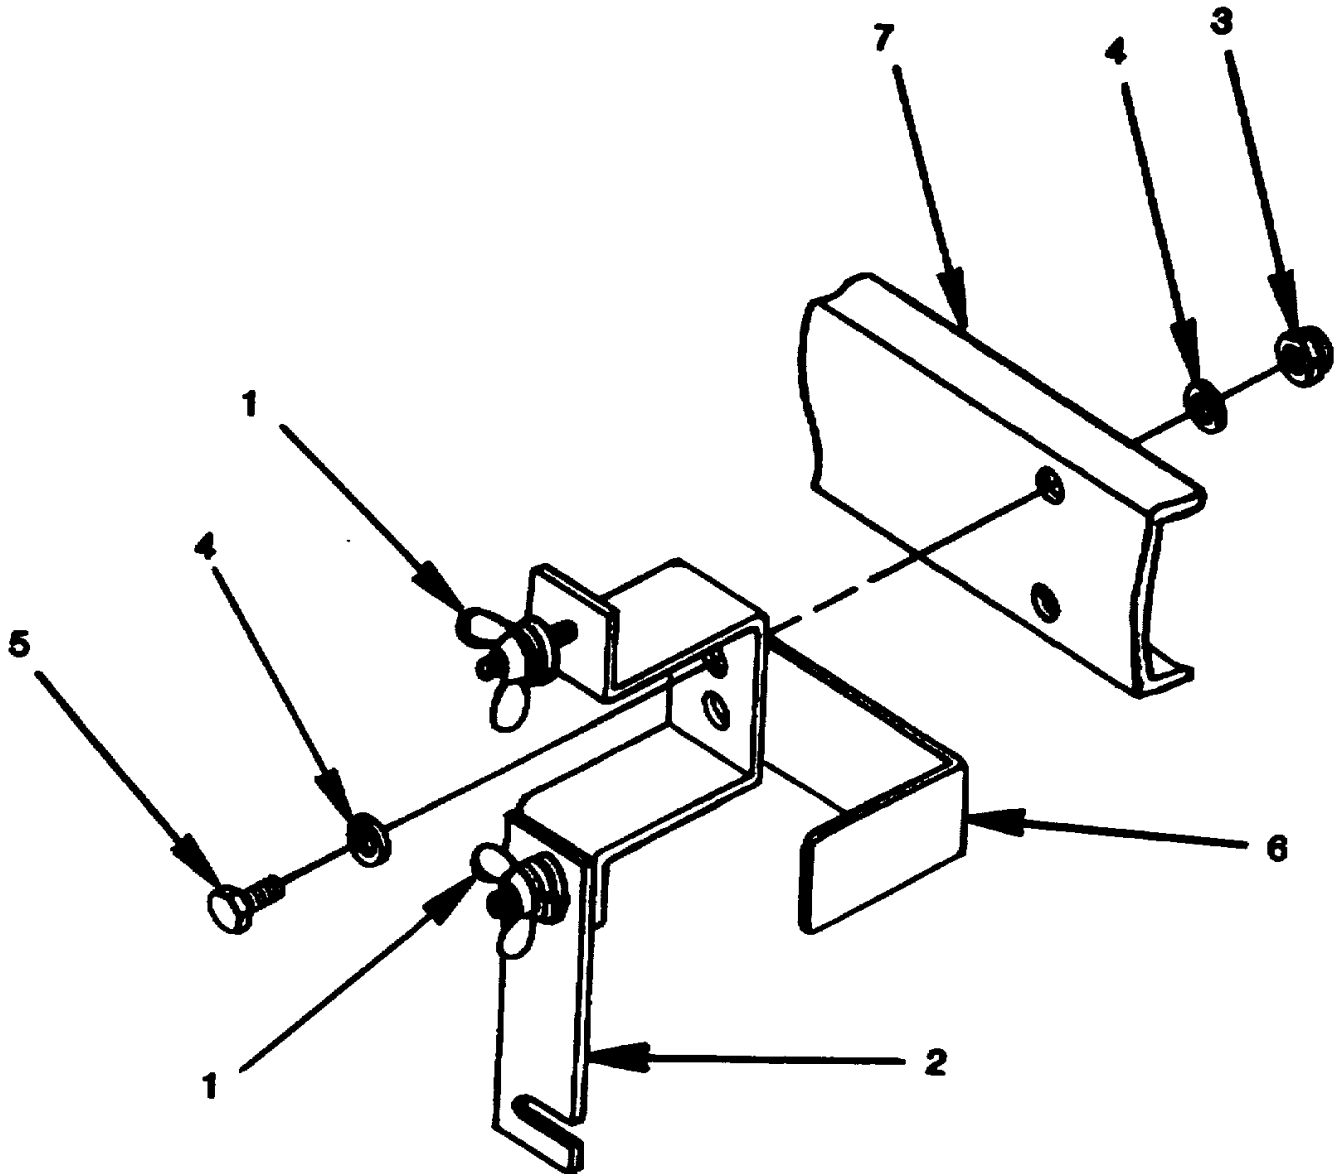

Figure 4-17. Hammer Bracket Assembly Replacement on AN/MJQ-32 Only.
- (1) Loosen the two wingnuts (1, figure 4-17) which hold bracket plate (2) in place and allow bracket plate to swing downward.
- (2) Remove locknut (3), two flat washers (4), and screw (5) securing bracket assembly (6) to rear chassis (7).
- (3) Remove bracket assembly from rear chassis.